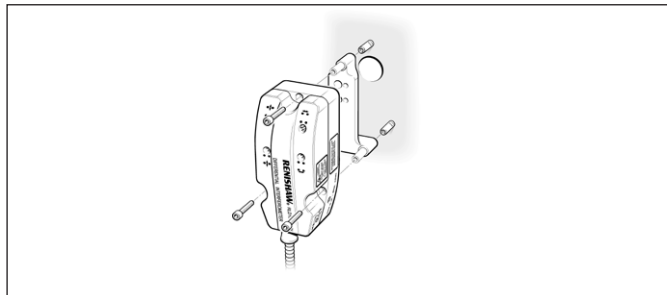

Figure 45 – Alignment aid
2. Fit the alignment aid between the chamber and the DI head, as shown in Figure 45, using the three M3 × 25 screws provided in the alignment aid kit and tighten to 0.6 Nm.